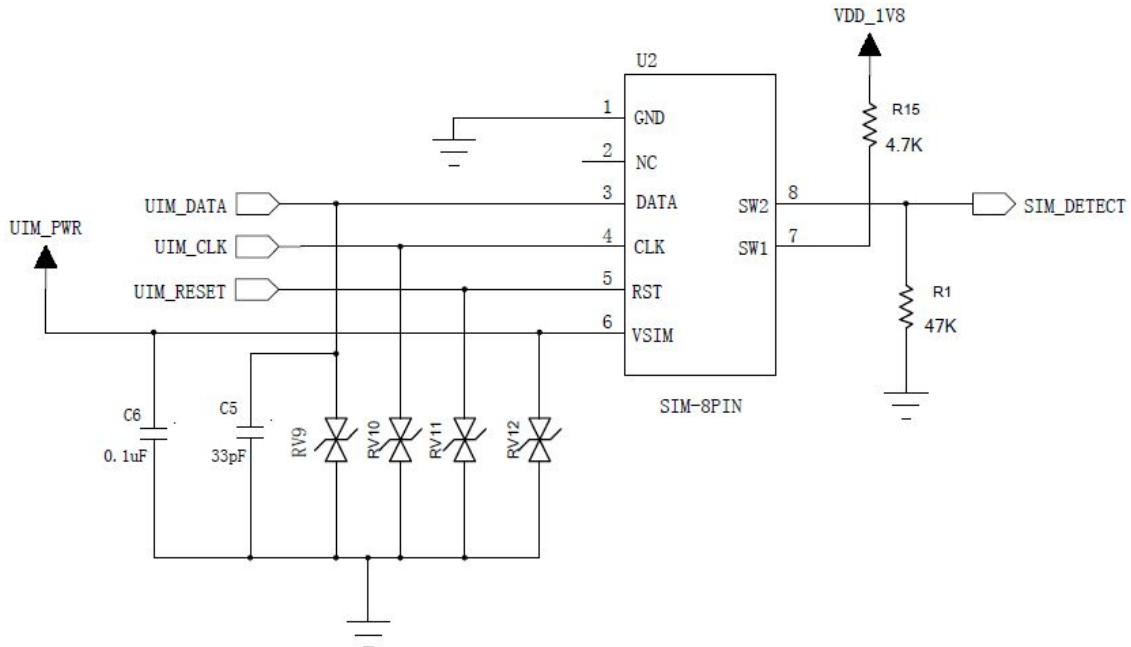

Figure 5-8 Reference Design of “Normally Open” SIM Card Interface
- For “Normal opened” SIM card, as shown in the figure 5-8, SIM\_DETECT signal line is connected to U2’s Pin8 (SW2), and Pin7 (SW1) will be pulled up 4.7K resistor . When the SIM card is not inserted, SW2 and SW1 will be disconnected, then SW2 will be at low level. When the SIM card is inserted, SW2 and SW1 will short circuit, SIM\_DETECT level will be pulled up.